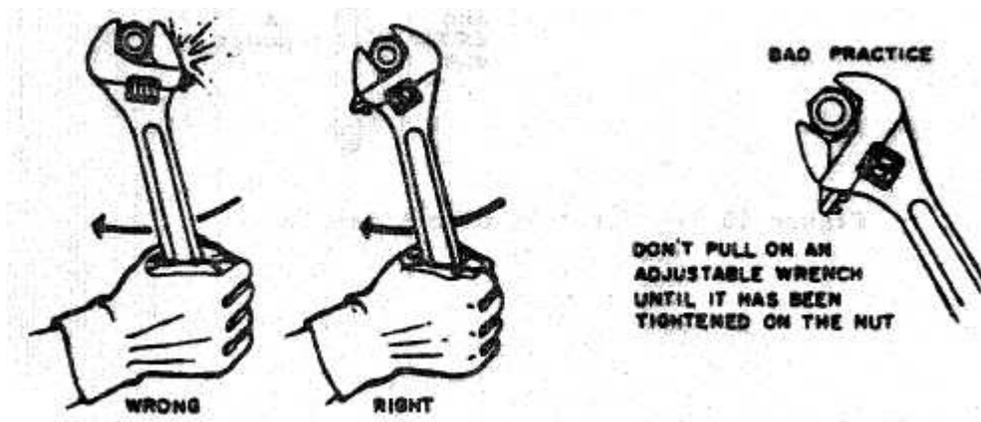

Figure 8-31. Adjustable Wrench
Adjustable or crescent type wrenches are shaped somewhat similar to open-end wrenches but have one jaw adjustable. (Figure 8-31)
- A. Always place the wrench on the nut so that the pulling force is applied to the stationary jaw side of the handle. (Figure 8-31)
- B. After placing the wrench on the nut, tighten the adjusting knurl so that the wrench fits the nut snugly. (Figure 8-31)